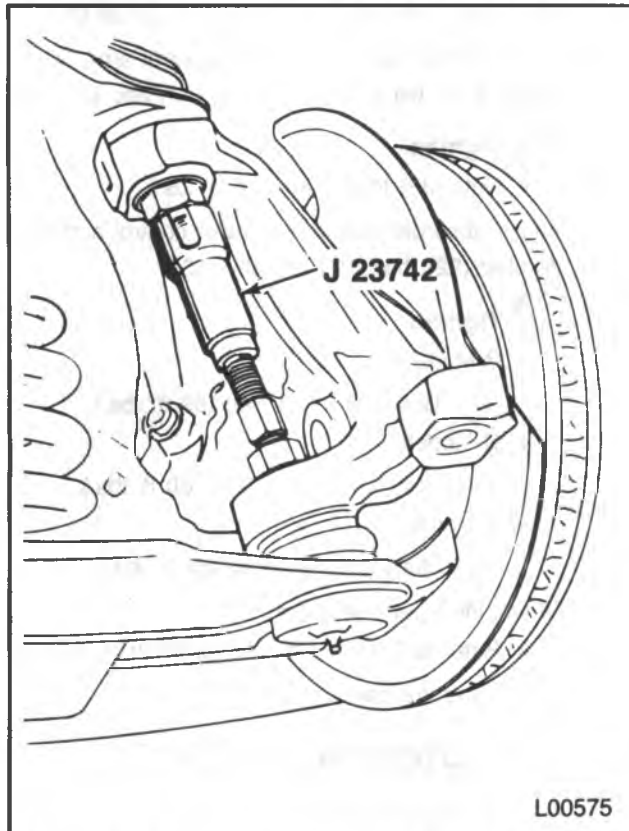

Figure 22 — Disconnecting the Lower Ball Joint
9. Steering knuckle (31) from the lower ball joint (37).
- Use J 23742 to break the lower ball joint free from the steering knuckle (figure 22).